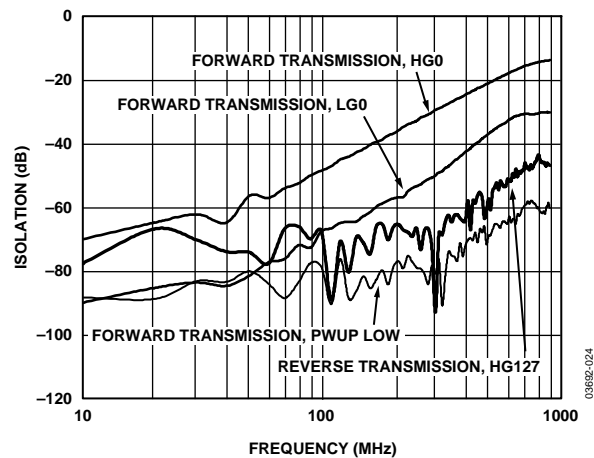

Figure 26. Various Forms of Isolation vs. Frequency
The AD8370's two gain ranges are referred to as high gain (HG) and low gain (LG). Within each range, there are 128 possible gain codes. Therefore, the minimum gain in the low gain range is given by the nomenclature LG0 whereas the maximum gain in that range is given by LG127. The same is true for the high gain range. Both LG0 and HG0 essentially turn off the variable transconductance stage, and thus no output is available with these codes (see Figure 26).